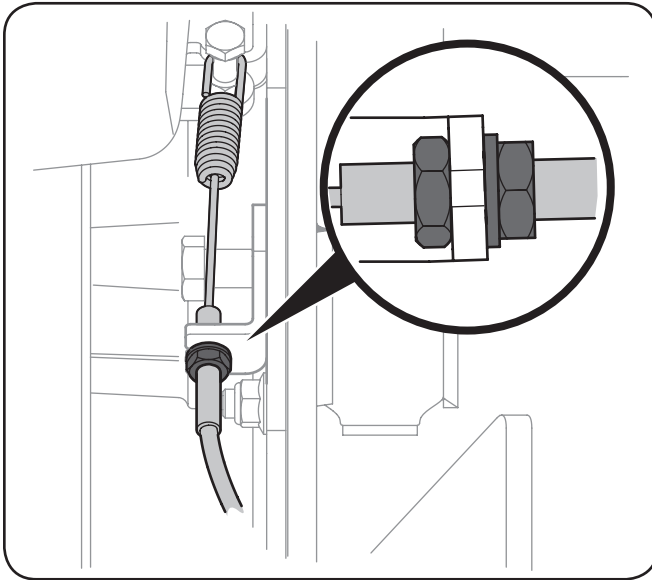

Figure 6-4
1. Locate the brake cable housing nuts on the outside of the frame and to the inside of the rear tires. See Figure 6-4.
2. Adjust the cable housing nuts one full turn and check parking capacity. Repeat if parking brake does not hold. See Figure 6-4.